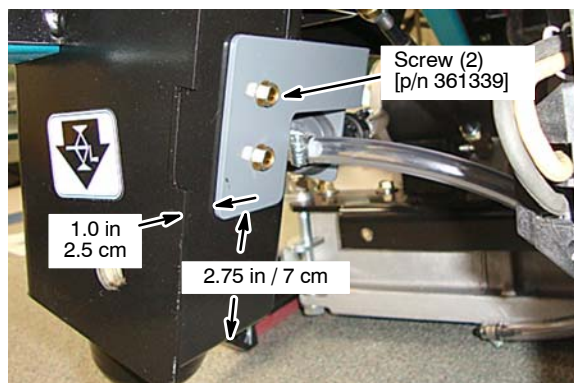

Fig. 39
2. Using two self-tapping screws [p/n 361339], attach the hose assembly bracket to machine frame as shown (Figure 39).